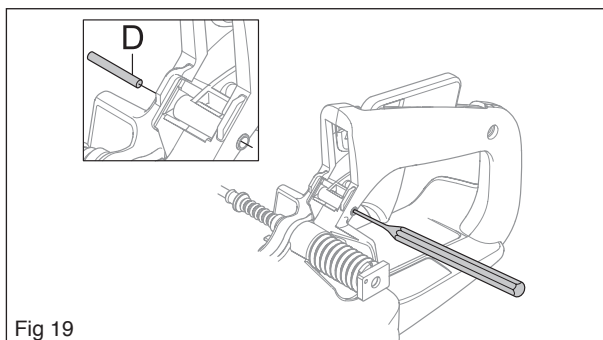

Fig 19
Press out the throttle control pin (D) with the help of a punch (see figure 19).